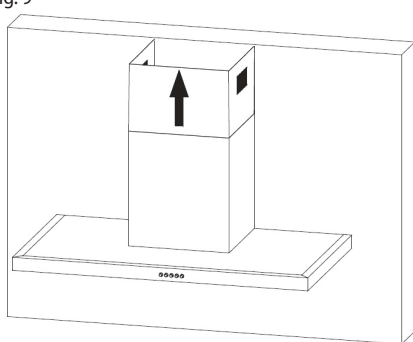

Fig.10
10. Drill holes and attach the upper chimney part bracket as shown in Fig. 10.